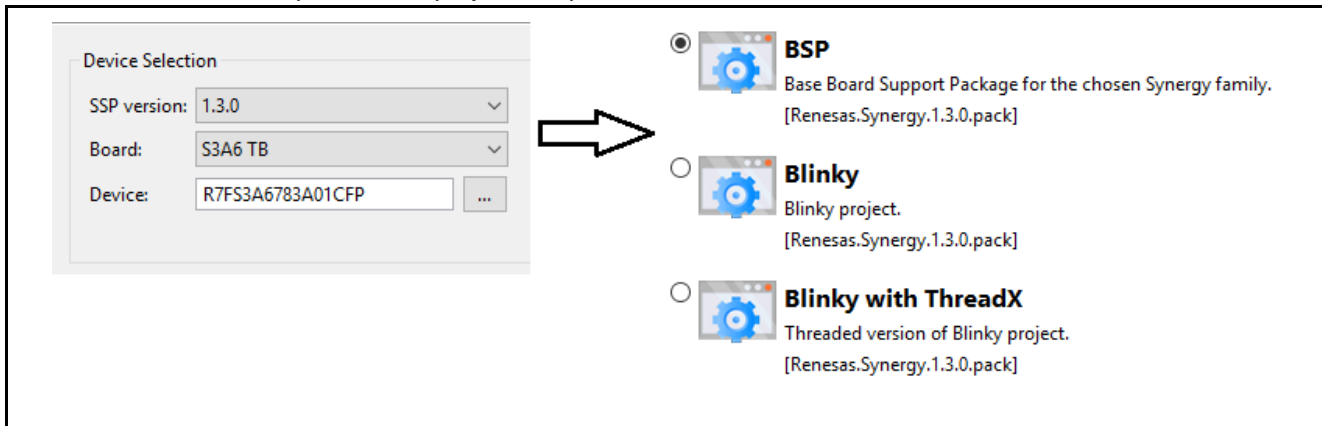

Figure 7. Synergy Project Creation
8. Choose the target board (for example, in case of TB-S3A6, choose **S3A6 TB** (see Figure 7)).
9. Choose **SSP version** (in case of SSP 1.3.0, choose **1.3.0** (see Figure 7)).